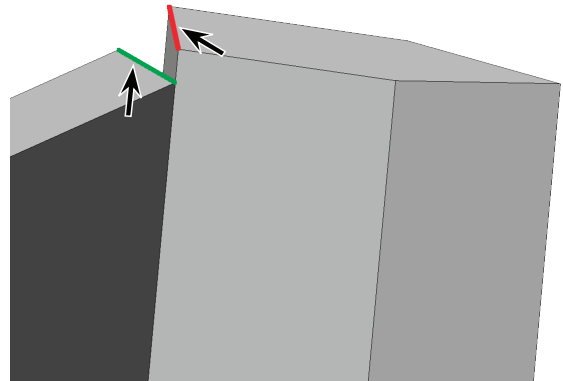

Fig. 10
Step 5. Click **top edge V Stab** and **top edge of Rudder**, **Fig. 10**.